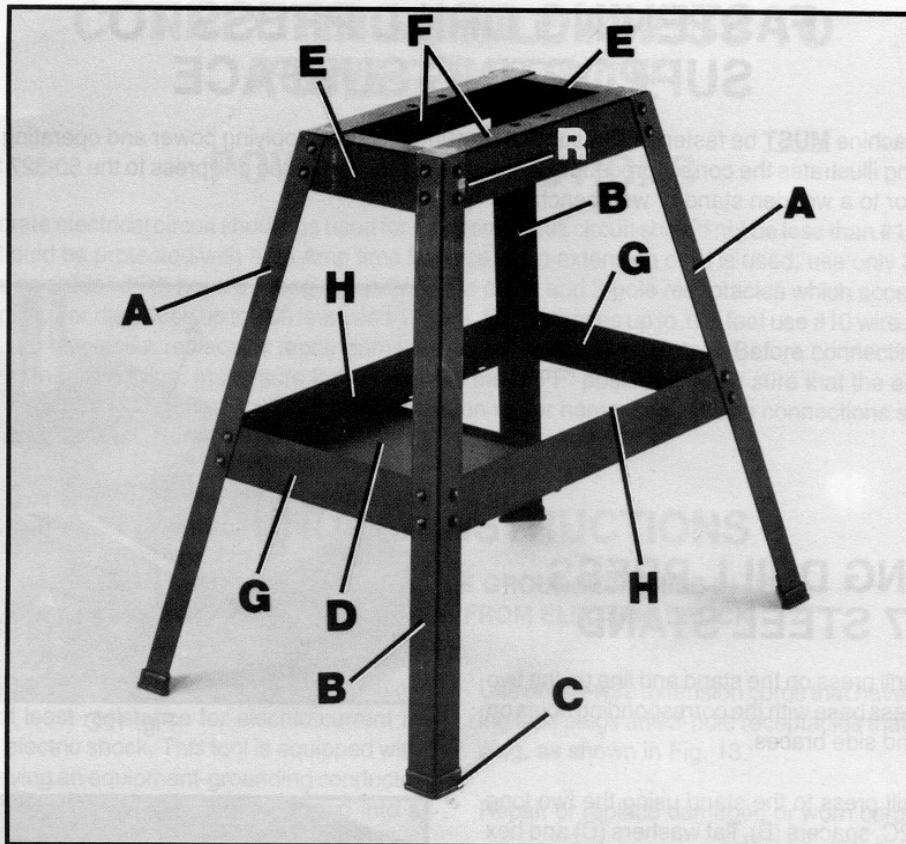

Fig. 12B
1. Assemble the four legs (A) and (B) Fig. 12B, to the top front and rear braces (E), which are 10" long, and the top side braces (F) which are 17-1/16" long, using the sixteen carriage bolts, flat washers and hex nuts. **IMPORTANT: LEGS (B) MUST BE POSITIONED AT THE RIGHT FRONT AND LEFT REAR OF THE STAND. LEGS (B) CAN BE IDENTIFIED BY THE NOTCH (R) PROVIDED ON THE TOP OF EACH LEG. ALSO, THE TOP LIPS OF THE TWO SIDE BRACES (F) MUST FIT OVER THE LIPS OF THE FRONT AND REAR BRACES (E) AS SHOWN.** Do not completely tighten hardware at this time.
2. Assemble the two bottom front and rear braces (G) Fig. 12B, which are 17" long, and the two bottom side braces (H), which are 25" long, to the four legs (A) and (B) using the sixteen carriage bolts, flat washers and hex nuts as shown. Do not completely tighten hardware at this time.
3. Assemble the bottom shelf (D) Fig. 12B, to the two side braces (H) using the four carriage bolts, flat washers and hex nuts. **NOTE:** Lip of shelf (D) should be toward the rear as shown. Do not completely tighten hardware at this time.
4. Assemble the four rubber feet (C) Fig. 12B, to the bottom of each leg (A) and (B) as shown.